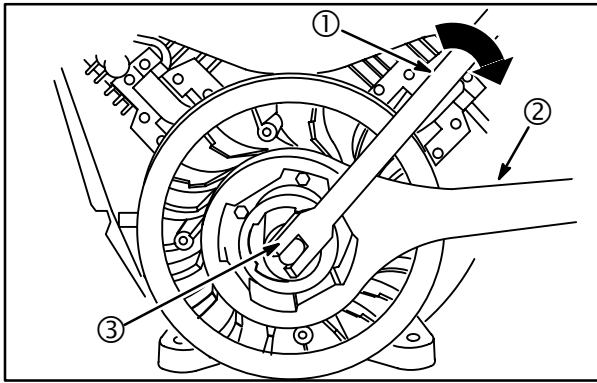

Fig. 17
2. Assemble Flywheel Holder #19321 (2) to retainer, **Fig. 17**.
3. Use a torque wrench (1) and 30 mm socket (3) to torque flywheel nut to **125 ft. lbs. (175 Nm)**.